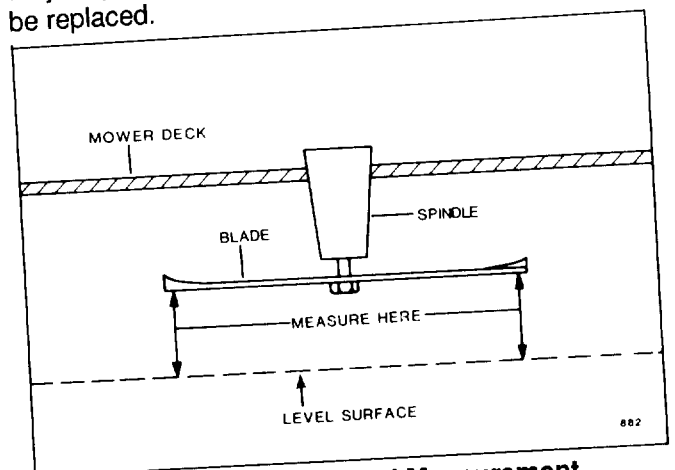

FIG. 13 Mower Level Measurement
2. Measure outside end of each side blade tip and adjust either right or left lift rod adjustment nut to obtain equal distances from surface to blade tips (Figs. 13 & 14).
2. Measure center blade tips and adjust hanger rods evenly so that distance from surface to front and rear of blade tips are equal to 1/8 inch low in front (Figs. 13 & 14).